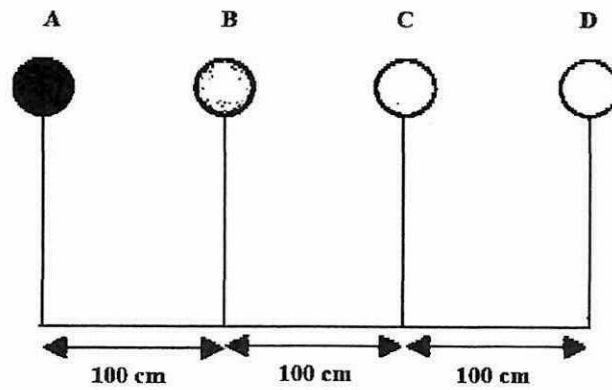

Figure Q3(c)
- Q3** (a) Explain the static and dynamic balancing and provide **two (2)** examples of each. (6 Marks)
- (c) **Figure Q3(c)** shows four masses A, B, C and D are to be completely balanced at radius 120 mm, 150 mm and 180 mm and 210 mm respectively. Mass B, C and D are 20 kg, 15 kg and 5 kg respectively. The planes which the mass revolve are spaced 100 cm apart. Find the required mass A and the angular settings relative to a plane so that the shaft is in complete balance. (12 Marks)